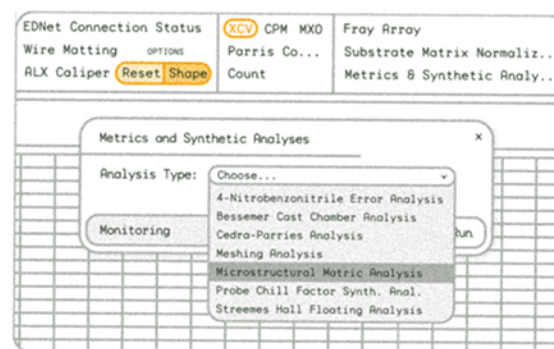

Figure 4. PDS is natively equipped to perform seven (7) types of substructural analyses.
1. Select **Metrics and Synthetic Analyses** and choose **Microstructural Matrix Analysis** from the dropdown menu marked **Analysis Type** in the popup window that appears (Fig. 4).